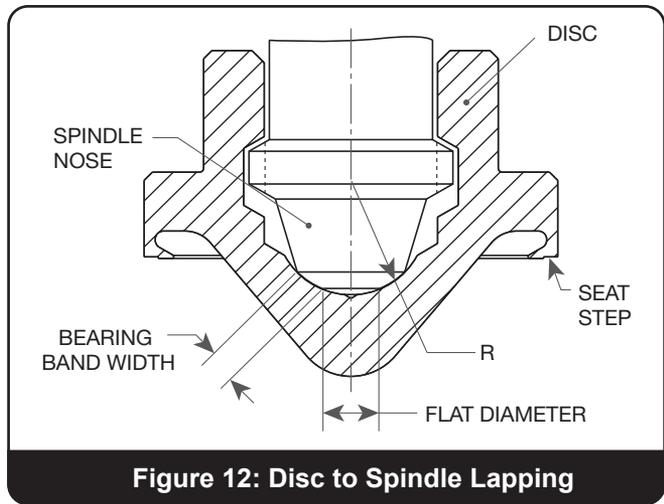

Figure 12: Disc to Spindle Lapping
- e. The spindle nose should be ground into the disc pocket until the bearing is clearly marked. The band position is shown in Figure 12.